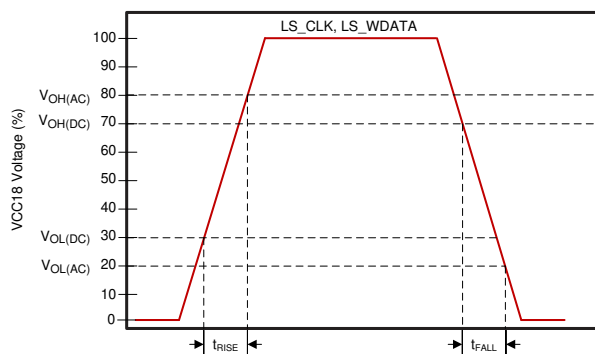
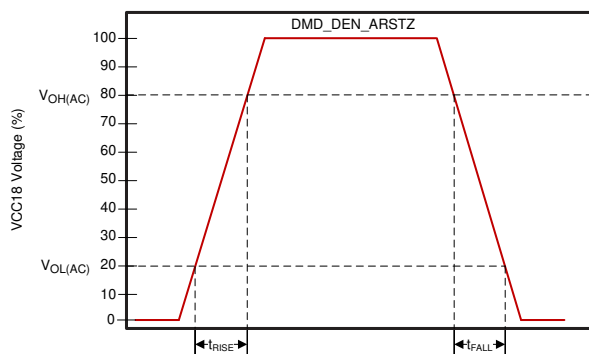

图 5-3. LS_CLK and LS_WDATA Slew Rate
图 5-4. DMD_DEN_ARSTZ Slew Rate
- (1) $V_{OH(AC)}$ maximum applies to overshoot. When the DMD_LS_WDATA and DMD_LS_CLK lines include a proper 43- Ω series termination resistor, the DMD operates within the LPSDR input AC specifications.
- (2) $V_{OL(AC)}$ minimum applies to undershoot. When the DMD_LS_WDATA and DMD_LS_CLK lines include a proper 43- Ω series termination resistor, the DMD operates within the LPSDR input AC specifications.
- (3) See Figure 5-3 for DMD_LS_CLK, and DMD_LS_WDATA rise and fall times. See Figure 5-4 for DMD_DEN_ARSTZ rise and fall times.